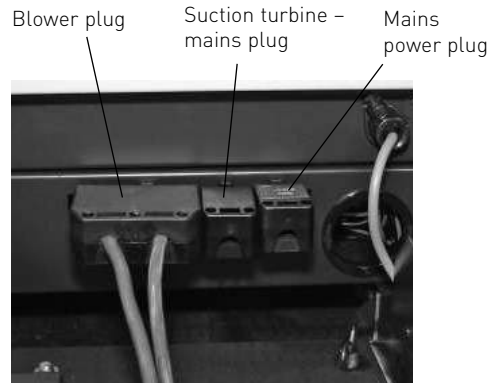

Fig. 83 Mains plugs for unit and suction turbine – view from rear
- Remove the right cladding cover – Fig. 83.